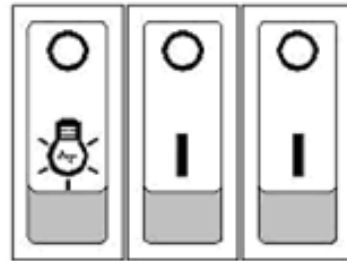

Figure 10
- The first switch marked with a light bulb controls the lamp and flame effect as shown in **Figure 10**.